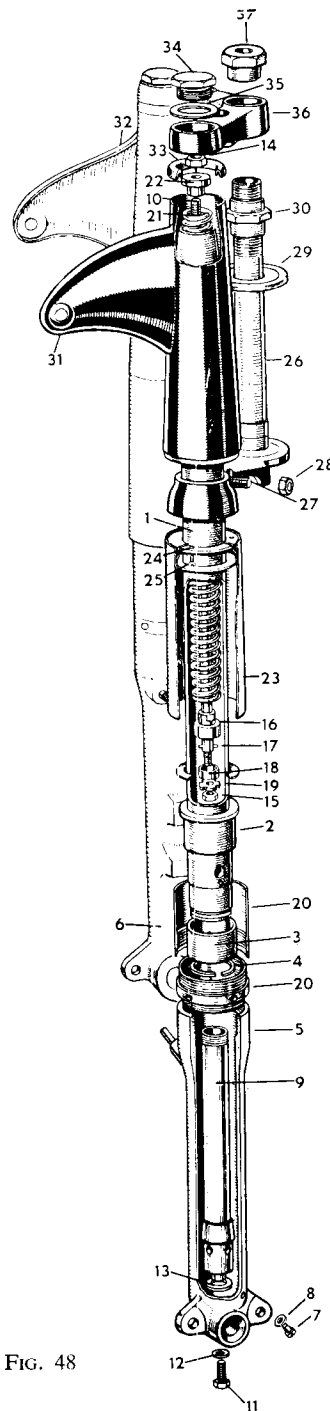

FIG. 48
Use one of the grades of oil, S.A.E. 20 as shown in the table of lubricants. The normal oil content is five fluid ozs. (142 c.c.). Attention is only necessary at the first 1,000 miles and again at 10,000 miles when the oil should be changed by draining. An exploded drawing of the front forks is shown in fig. 48 from which it will readily be seen that the fork springs abut against the filler plugs (34), before removing these plugs weight must be taken off the front wheel, by placing the machine on its central stand to avoid the forks collapsing.
The damper tube with the fork spring can be extracted from the tube. To dismantle further, take off nut securing fork spring, unscrew the damper tubecap (16) with a tommy bar through the holes in the damper tube, for if this is held in a vice it will distort and become useless. The damper assembly sequence is clearly depicted in fig. 48.